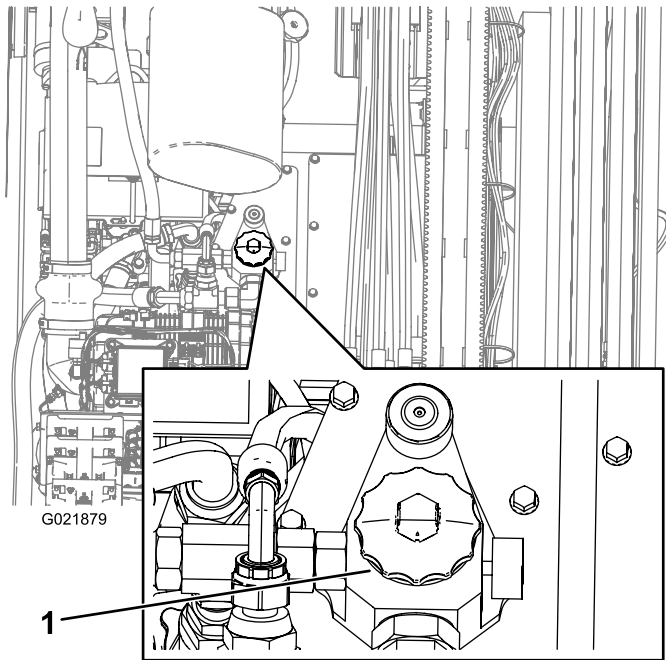

Figure 147
4. Open the hydraulic-tank cap (Figure 147).
10. Place a drain pan under the filter and remove the filter (Figure 147).